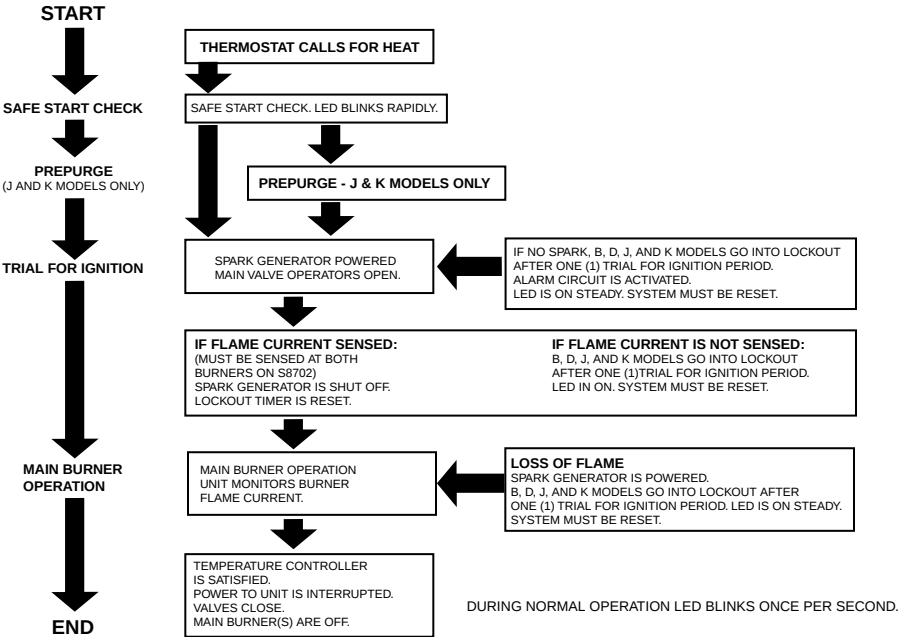

Fig. 4. S8701/S8702 Sequence of Operation for 1 Trial Models (B, D, J, and K Models).
1. Connect a meter (dc microammeter scale) in series with the flame signal wire as shown in figures 4 and 5. Use the Honeywell W136A test meter or equivalent. Disconnect the flame sense wire from the sense terminal on the control. Connect the red (positive) meter lead to the flame sense terminal on the control. Connect the black (negative) meter lead to the flame sense wire that goes to the flame rod.
(See also S8701 Fig. 4).